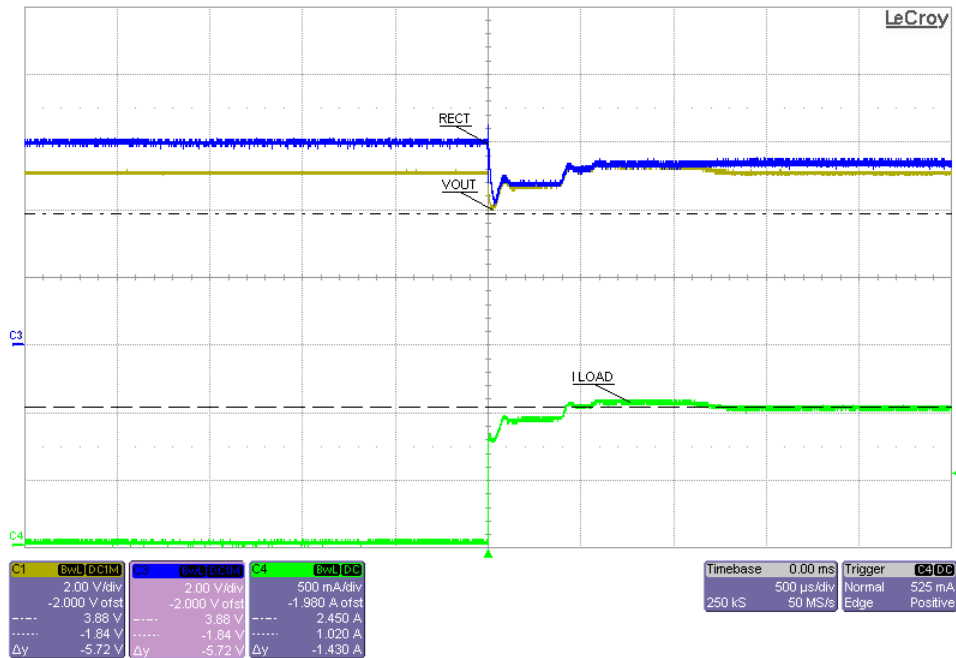

Figure 3. Load Step
- Monitor on side RX: load current, rectifier voltage, and output voltage as shown in Figure 3.